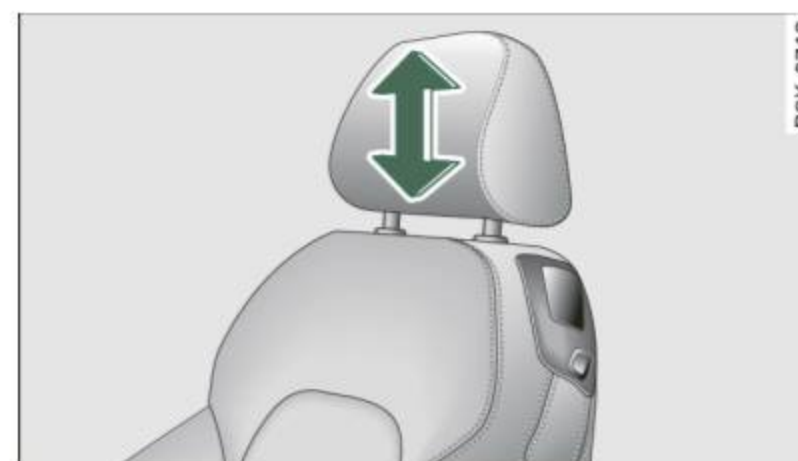

Fig. 73 Front seat: Adjusting the head restraint
The head restraints on the *front* seats can be adjusted to provide safe support to head and neck at the optimum height ⇒ *page 80*, fig. 73. Adjust the head restraint so the upper edge is as even as possible with the top of your head. If that is not possible, try to adjust the head restraint so that it is as close to this position as possible ⇒ *page 80*.
- Grasp the sides of the head restraint with both hands and slide the head restraint upward/downward, until you feel it click into place ⇒ *page 80*, fig. 73.